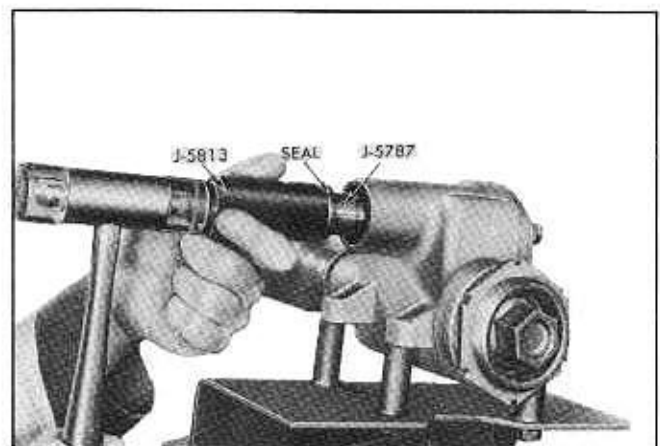

Fig. 9-20 Replacing Pitman Shaft Seal
10. Position seal protector J-5787 on pitman shaft. Place seal over protector and seat seal using tool J-5813 (Fig. 9-20).